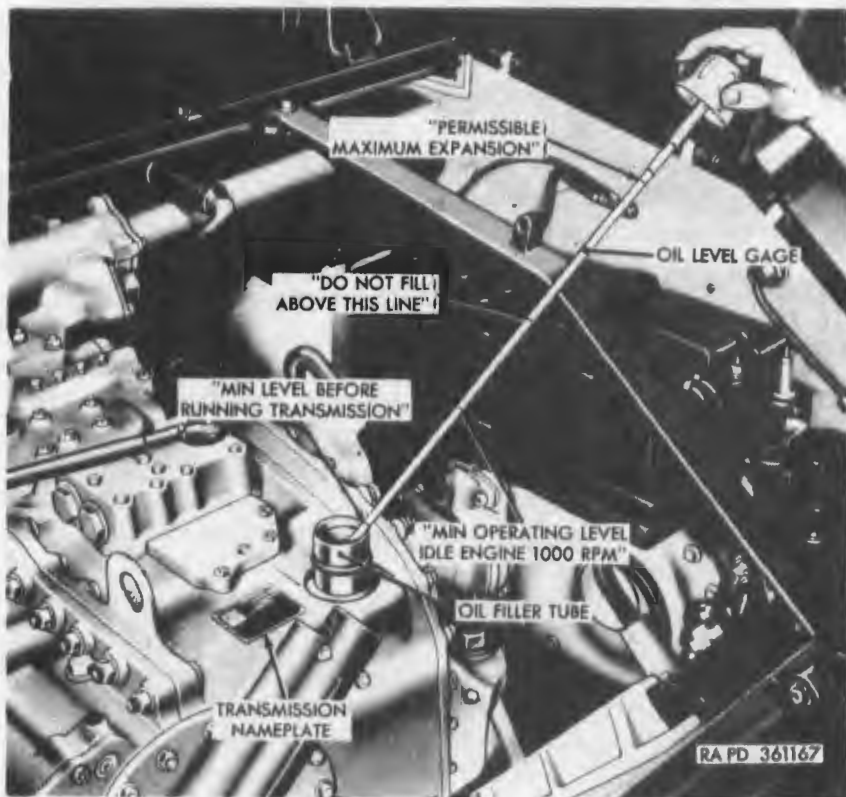
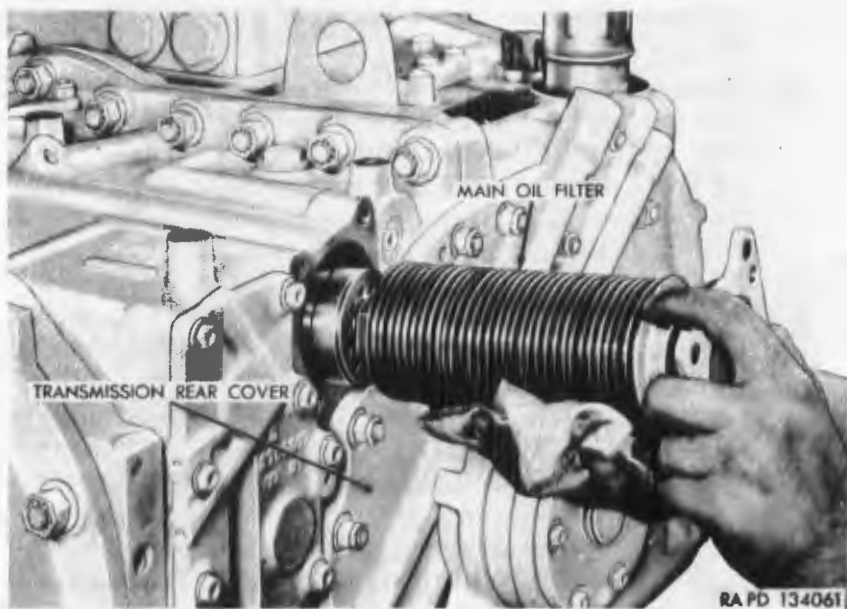
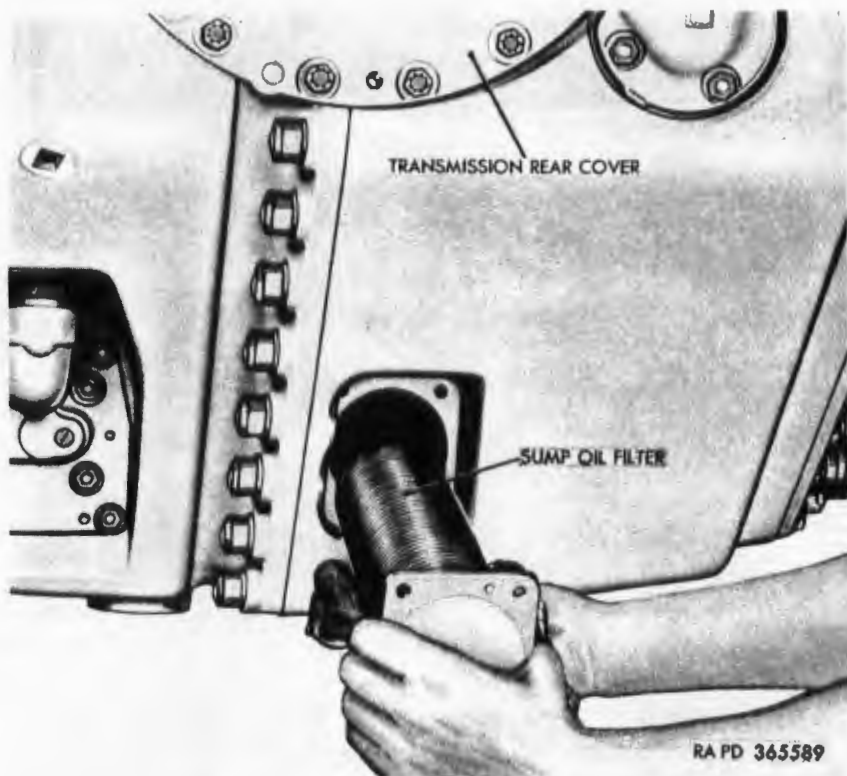
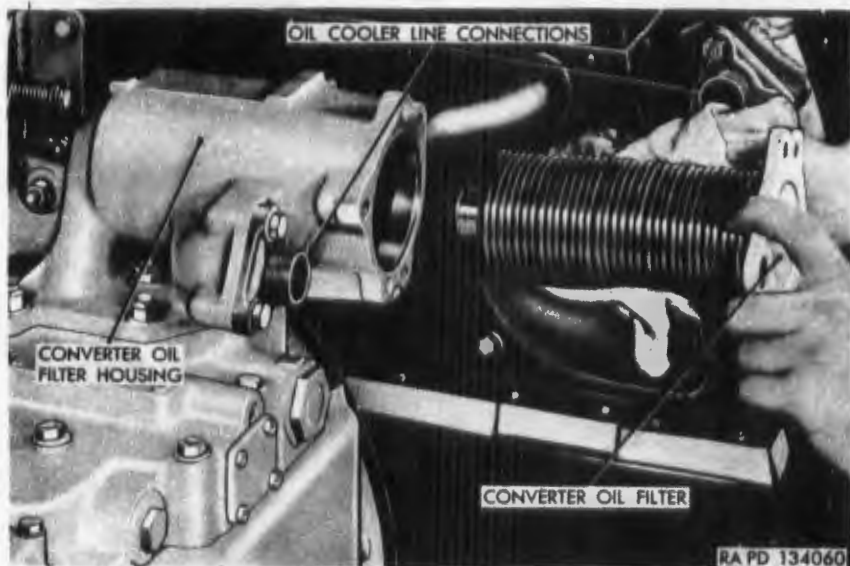

Figure 178. Transmission oil level gage.
Figure 179. Removing or installing main oil filter.
Figure 180. Removing or installing sump oil filter.
Figure 181. Removing or installing converter oil filter.
- (1) A single oil supply supplies all cooling, lubrication, and hydraulic requirements for the cross drive transmission. It serves as the applying force for control clutches and brakes, as a power transmitting medium in the torque converter, as a lubricant, and as a coolant for the entire transmission.
- (2) The oil supply is carried in the transmission reservoir. Oil is supplied to the reservoir through the oil filler tube (fig. 178) after removal of the transmission oil filler cap. Oil flow and pressure is provided to the various transmission components by seven oil pumps; five are ordinary gear-type pumps, one is an internal-external gerotor type, and one is a special paddle-wheel type. Scavenger pumps pick up oil from the sump through the sump filter and pump it to the reservoir thus keeping the sump evacuated. The input-pressure pump picks up oil from the reservoir and pumps it to the main filter. As the flow leaves the main filter, it branches to the main control valve assembly, steering control valve assembly, converter lockup clutch governor, relay valve, brake oil pressure regulating valve and main pressure regulator valve. The main pressure regulator valve maintains 150 psi pressure in the oil system by passing oil into the converter system. If the main pressure regulator valve becomes inoperative, the oil system is provided with a safety valve which opens at 230 psi and relieves the oil pressure by returning the excess oil to the sump. Regulating valves are also used to regulate the pressures at the various hydraulically operated components. A main oil filter (fig. 179), sump oil filter (fig. 180), and a converter oil filter (fig. 181), provide oil filtration in the oil system. The oil is cooled by an oil cooler (fig. 38) which is installed on the main engine and is connected to the converter oil filter housing.
- (3) It is very important that oil level be checked (*b* below) before operation with engine idling at 1,000 rpm. A lack of oil will prevent proper transmission operation and an excess of oil will cause the transmission to become overheated and sluggish.
(fig. 178) which is located in the oil filler tube and is part of the filler cap. To check oil level, remove locking handle and open transmission oil filler cover (fig. 236) located on the transmission rear access door. Loosen oil filler cap and withdraw oil level gage, wipe dry with a clean cloth, insert gage until seated and withdraw, noting level of oil on gage.
Note. The oil level gage may be one of two types, the late type is as illustrated in figure 178, the early type has only ADD and FULL markings. The ADD mark on early gages corresponds to the MIN OPERATING LEVEL IDLE ENGINE 1,000 RPM marking on late gages and the FULL mark corresponds to the DO NOT FILL ABOVE THIS LINE on late gages.
- (2) *Before operation check.* Check oil level before starting main engine. The oil level gage (fig. 178) should indicate oil above the mark MIN LEVEL BEFORE RUNNING TRANSMISSION stamped on the gage. On early gages, be sure that an oil depth of at least 2-inches in the
Caution: When operating the vehicle over rugged terrain or at high speeds, be alert for a signal at the high oil temperature warning light which indicates that the oil is reaching the PERMISSIBLE MAXIMUM EXPANSION mark on the oil level gage (fig. 178). As soon as the warning light signals excessive heat, place range selector control lever in NEUTRAL PARK position and operate engine at 1,600 rpm. If the oil system is clear and the oil cooler is functioning properly, the lubricant temperature will return to normal within 2 or 3 minutes. If not, check oil level, drain excess oil, and perform idling speed check.
- (2) *Fill transmission with oil.* Install drain plugs in transmission. Install transmission oil drain hole cover on hull bottom (par. 246d). Remove locking handle and open cover on transmission rear access door (fig. 236). Remove locking handle and open cover on transmission rear access door (fig. 236). Remove transmission oil level gage (fig. 178) and pour 11 gallons of oil, as specified on lubrication order LO 9-7218 (par. 90), into the transmission through the filler tube. Start engine and operate for 3 or 4 minutes to fill torque converter and oil cooler. With engine idling at 1,000 rpm, add sufficient oil through filler tube to bring oil to its proper level.
- (1) *Removal.* Open transmission rear access door (fig. 236). Remove three self-locking hex-head bolts and flat washers from filter body and pull filter (fig. 179) out of transmission housing. Remove and discard gasket.
- (3) *Installation.* Insert main oil filter (fig. 179) in transmission housing, using a new gasket. Secure filter in transmission with three $\frac{3}{8}$ x $\frac{7}{8}$ self-locking hex-head bolts and $1\frac{3}{32}$ -inch flat washers. Close transmission rear access door.
self-locking hex-head bolts and flat washers from filter body and pull sump oil filter (fig. 180) out of transmission housing. Remove and discard gasket.
- (2) *Cleaning.* Refer to *a*(2) above.
- (3) *Installation.* Insert sump oil filter (fig. 180) into transmission housing, using a new gasket. Secure filter in transmission with four $\frac{5}{16}$ x 1 self-locking hex-head bolts and $1\frac{1}{32}$ -inch flat washers. Install power plant in vehicle (par. 130).
- (1) *Removal.* Open transmission front access door (fig. 236). Remove three self-locking hex-head bolts and flat washers from filter body and pull filter out of converter oil filter housing (fig. 181). Remove and discard gasket.
- (2) *Cleaning.* Refer to a (2) above.
- (3) *Installation.* Insert converter oil filter into converter oil filter housing (fig. 181), using a new gasket. Secure filter in housing with three $\frac{3}{8}$ x 1 self-locking hex-head bolts and $1\frac{1}{2}$ -inch flat washers. Close transmission front access door.